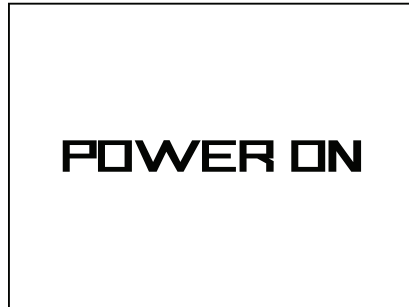

Fig. 1 Receiver Power On
- When the receiver is off, press and hold the **Power Button** to turn the receiver on (Figure 1).